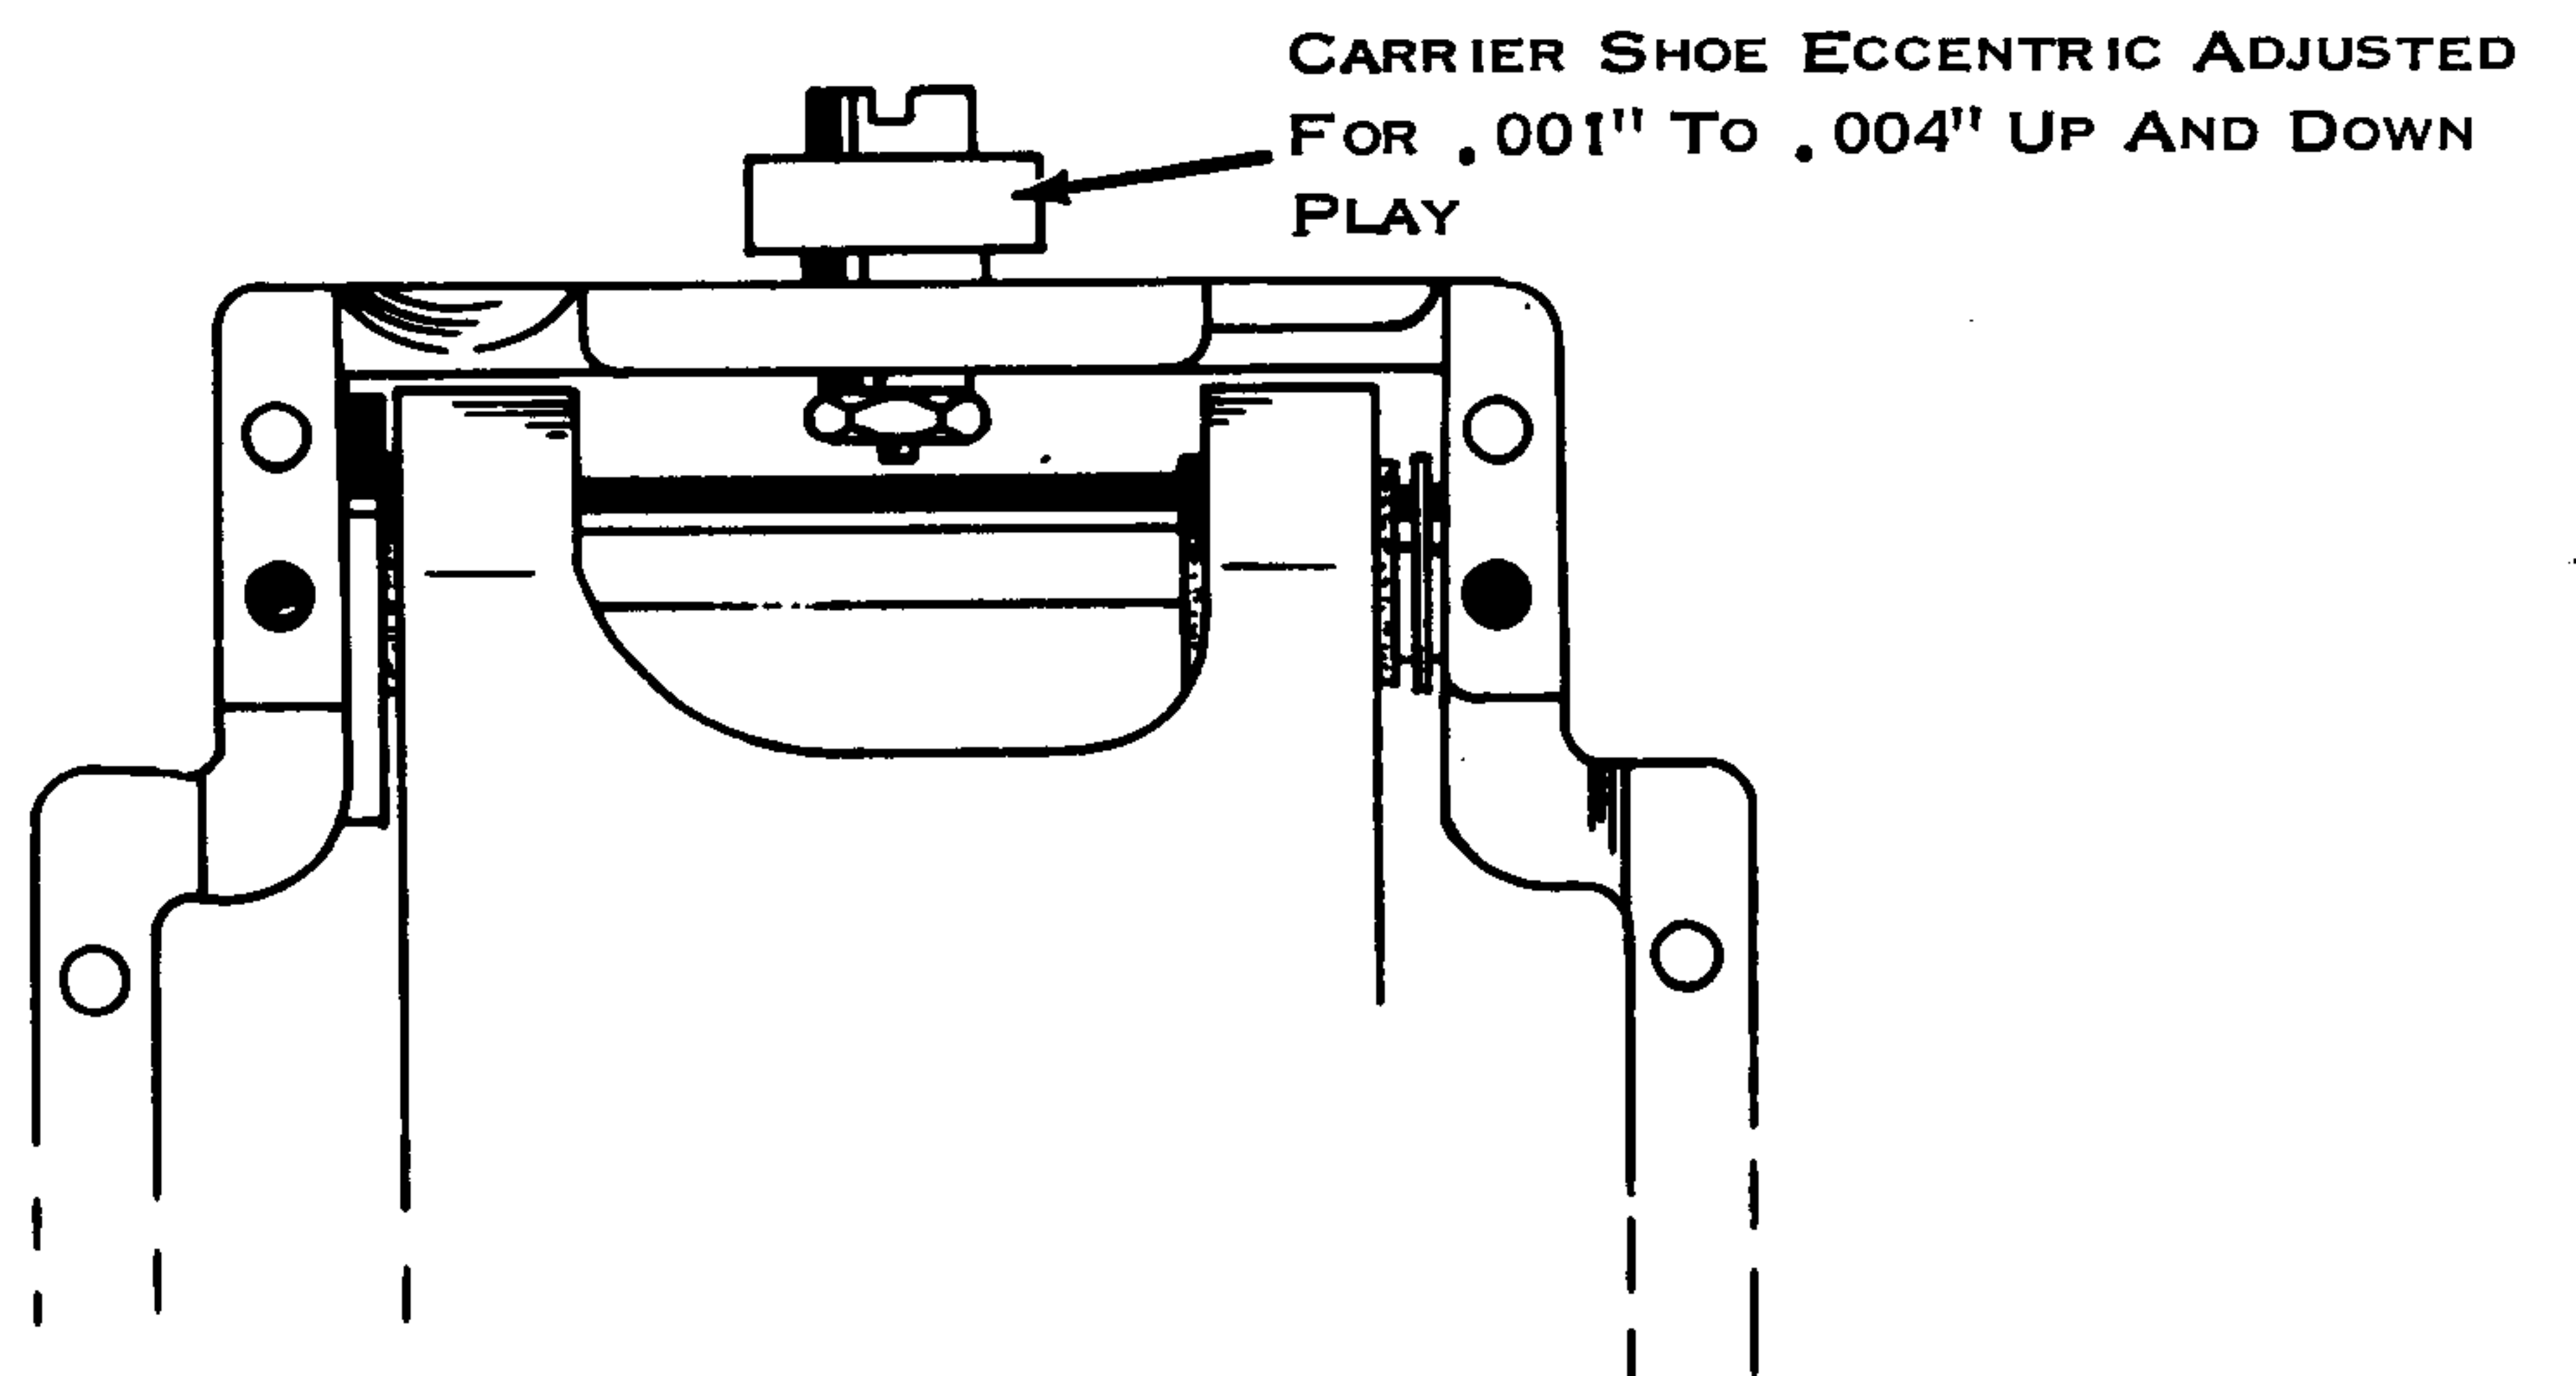

Figure 111. Carrier Shoe
7. Carrier Shoe (Fig. 111) - The upper carrier shoe eccentric mounting stud should be adjusted to provide .001" to .004" up and down play at the rear of the carrier. This clearance should be checked in several places along the length of the writing line.